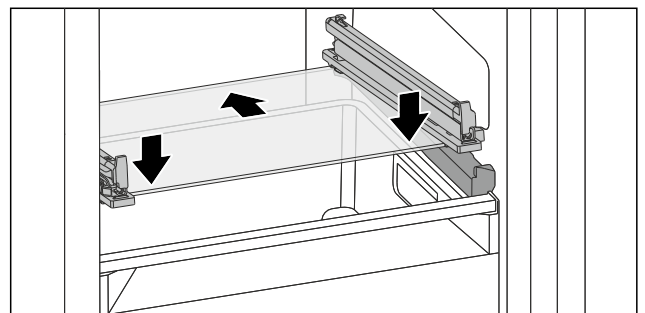

Fig. 71 Tilting drawer glass shelf
- Position glass shelf at an angle behind the stoppers. (see Fig. 71)